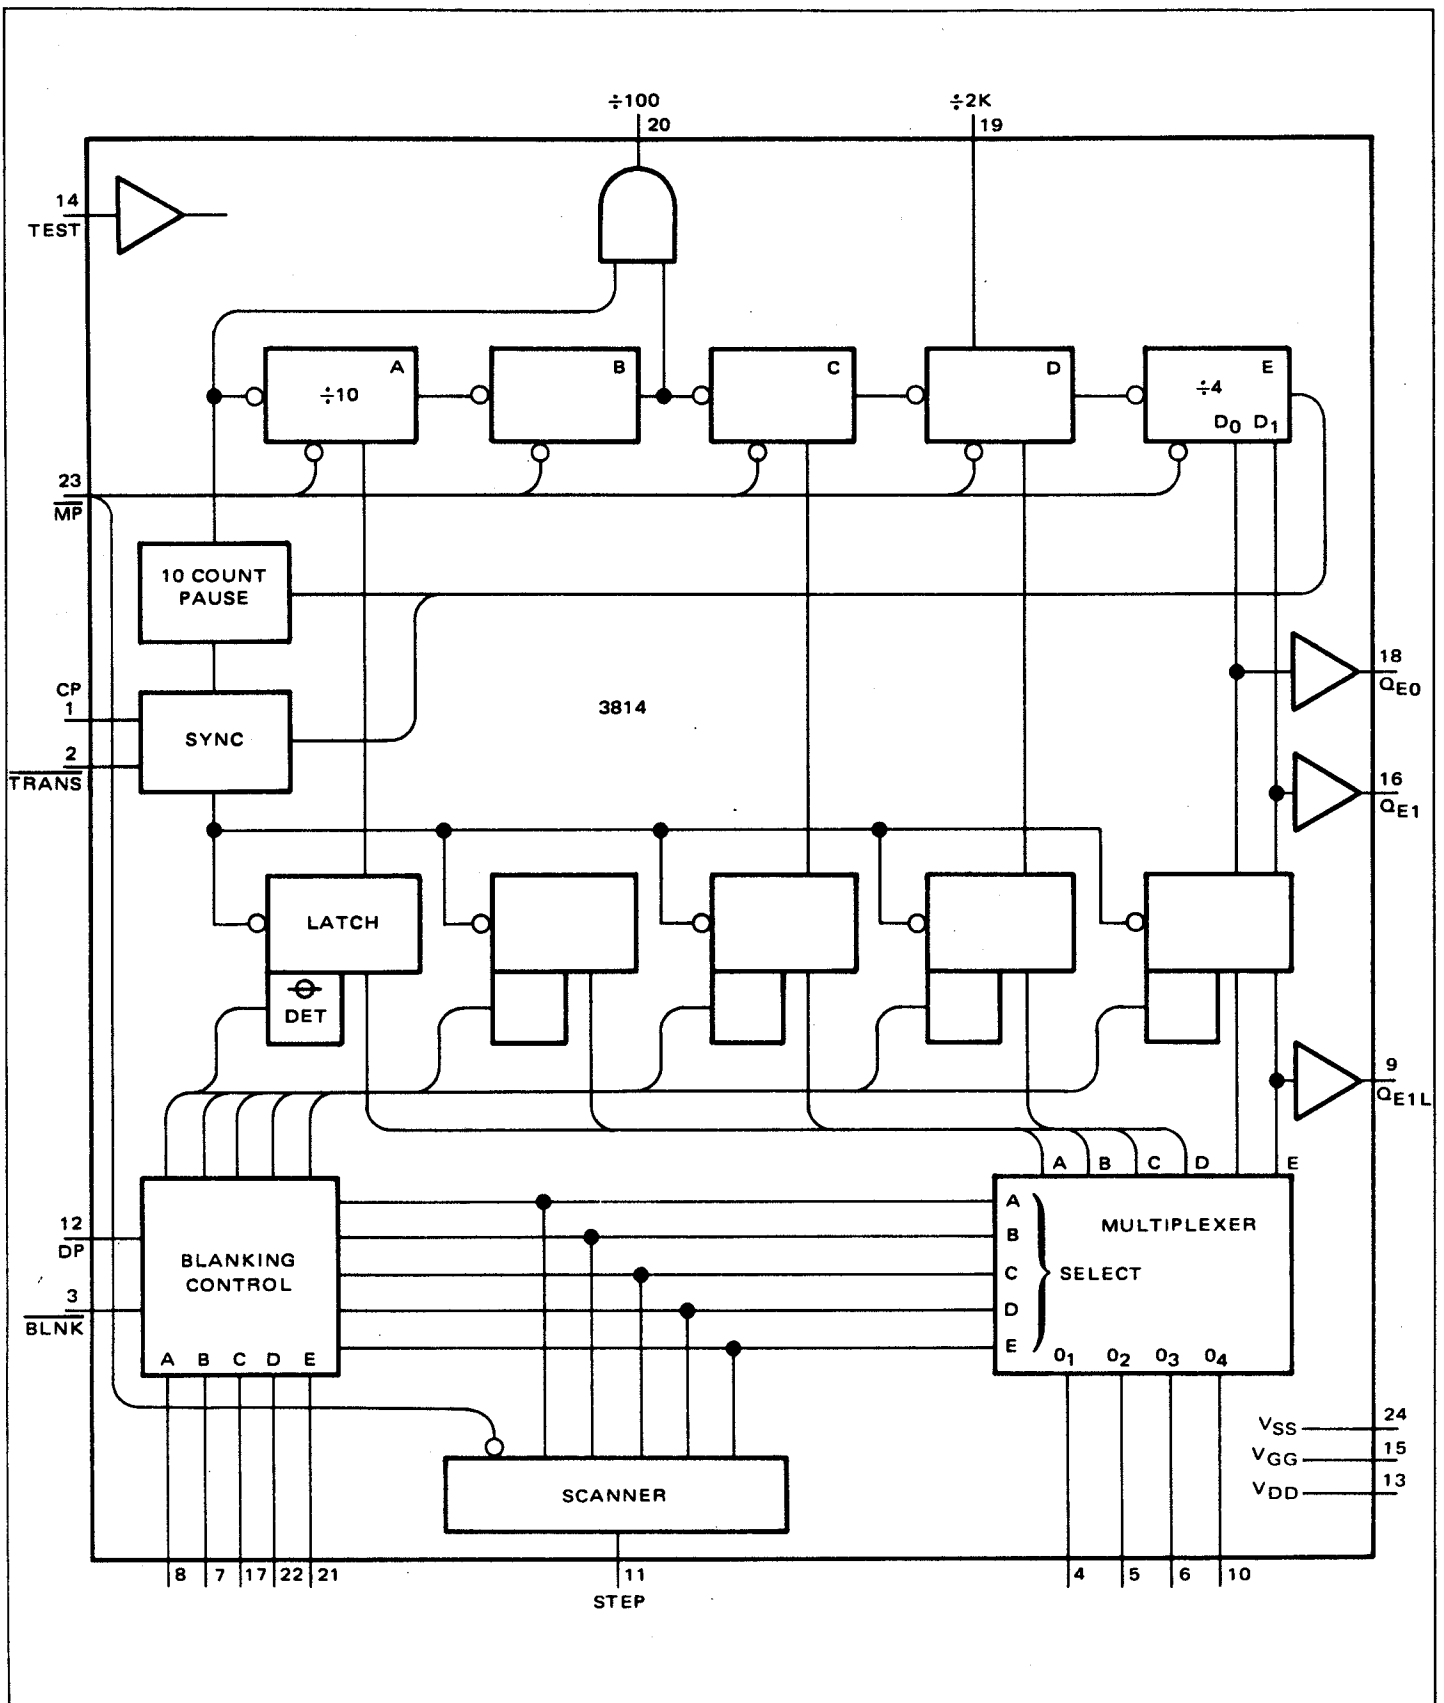

Figure 4.15 - Logic Array
4.3.14.1 The heart of the instrument is the 3814 Digital Voltmeter logic array, shown on figure 4.1 as the counter, latch, 4-line decoder, and multiplexer. A more detailed illustration of this device is shown in figure 4.15. It contains four full decade counters, two overflow latches, an underrange output, an overrange output, outputs to drive a BCD to seven segment converter, and decoded outputs to strobe the display. The 3814 counts four full digits and the overrange digit. The output of the LSD decade counter is 200 kHz which drives the CP input to the 3814 chip. The decade counters change state on the rising edge of the clock pulse.